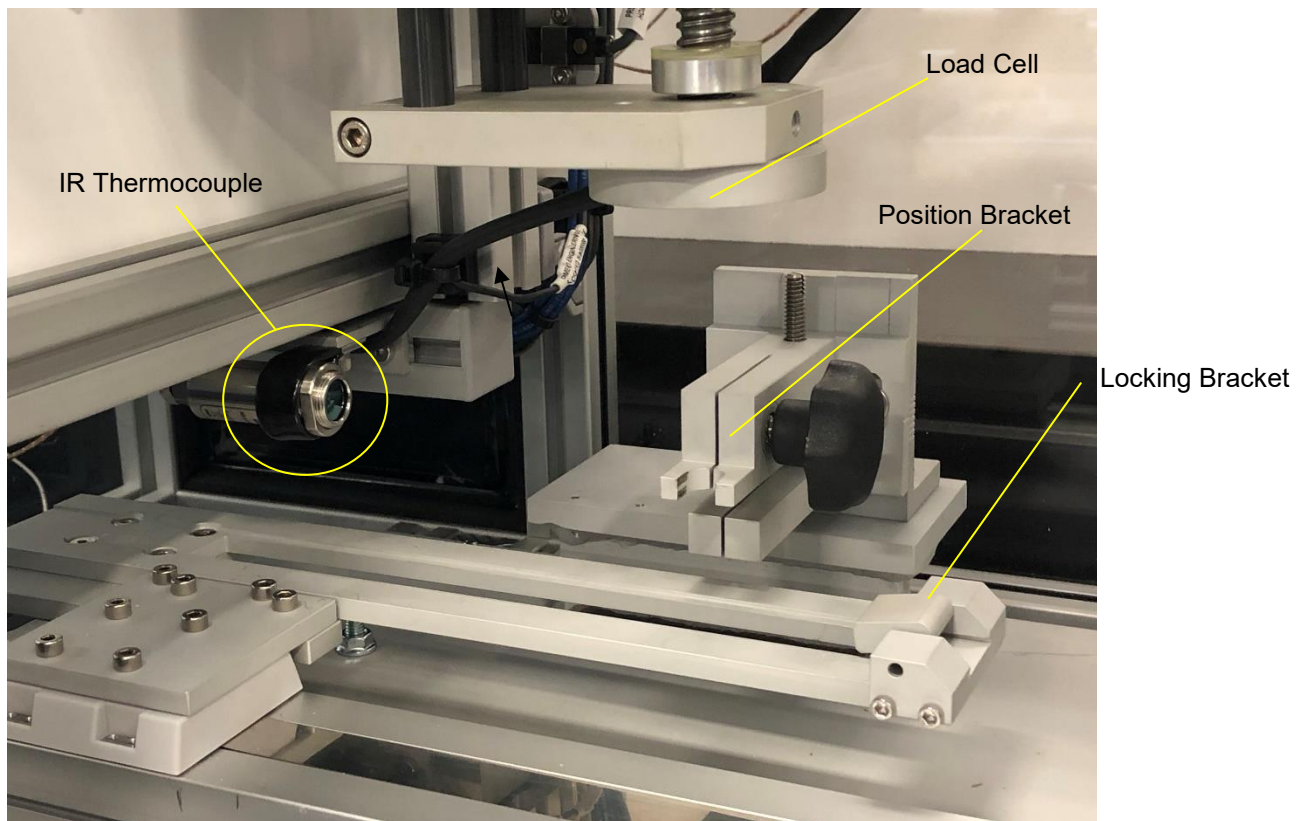

Figure 19 Infrared sensor, the load cell, and the position bracket
7. Once the sample has been allowed to reach the required temperature, open the door and place one substrate on the table as shown in the Figure 19 below. The substrate should sit loosely in the tray with the clear plastic side facing up, and overhang no more than 3/4” at either end.